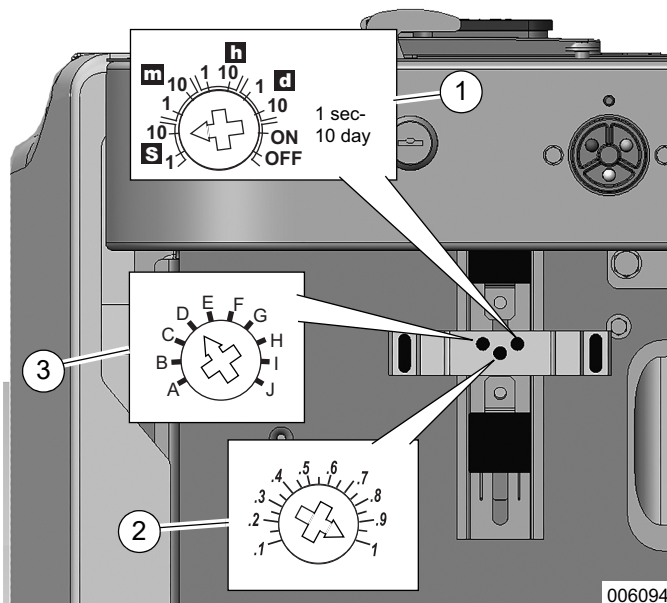

Figure 5. Timer Relay Settings
See **Figure 5**. Timer relay includes an adjustable timing dial (1), a fine time dial (2) to be set full clockwise, and a function dial (3) to be set at “D.”